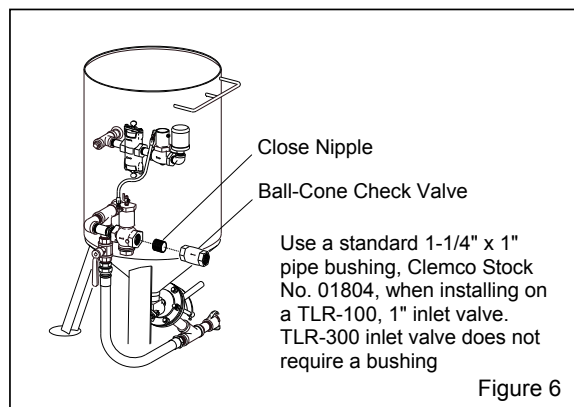

Figure 6
2.3.1 Where multiple blast machines are operating from a single air source, install a ball-cone check valve at the air supply on each machine. Refer to the illustration in Figure 6 to install a check valve on a blast machine.